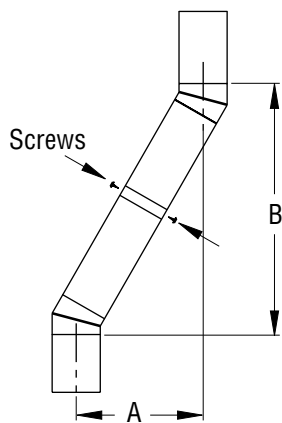

Figure 11 - Elbow Offset
Continue to assemble chimney sections as outlined, making sure that both inner and outer pipe sections are locked together. When installing double wall snap-lock chimney together, it is important to assure joint between chimney sections is locked. Check by pulling chimney upward after locking. Chimney will not come apart if properly locked. It is not necessary to add screws to keep chimney together (exception - see Figure 11, page 10).
1. To achieve desired offset, you may install combinations of 12", 18", 24", 36" and 48" length of double wall pipe (see Figure 11/offset chart, page 10).
4. All pipe connections between offset and return must be secured with two screws on outer pipe only (see Figure 11, page 10). Do not penetrate inner stainless.